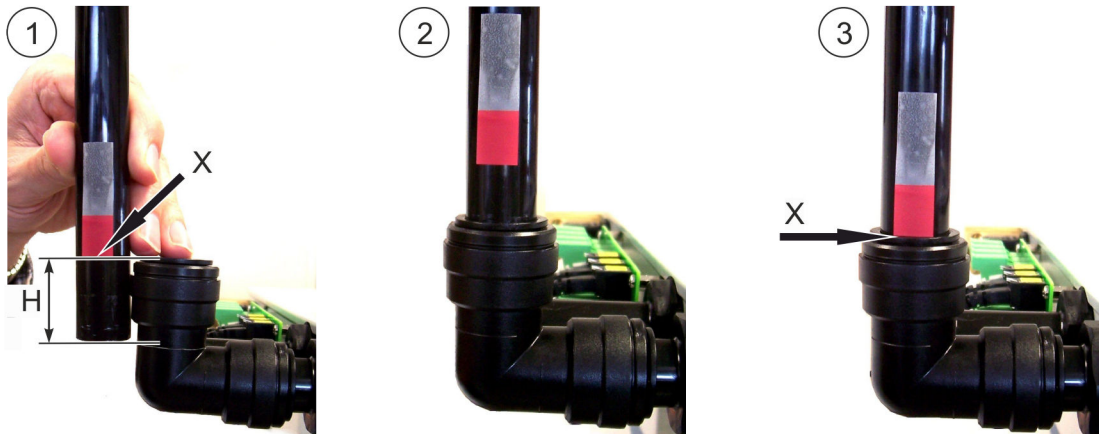

Fig. 35: Mounting
1. [Fig. 35/1]: Mark the insertion depth (Fig. 35/H) of the pipe (Fig. 35/X). Use the auxiliary line at the pipe angle. Insertion depth (H) approx. 33 mm.
2. [Fig. 35/2]: Loosely insert the pipe.
3. [Fig. 35/3]: Push in the pipe up to the marking (Fig. 35/X) and until it can be heard and felt to be in the stop.